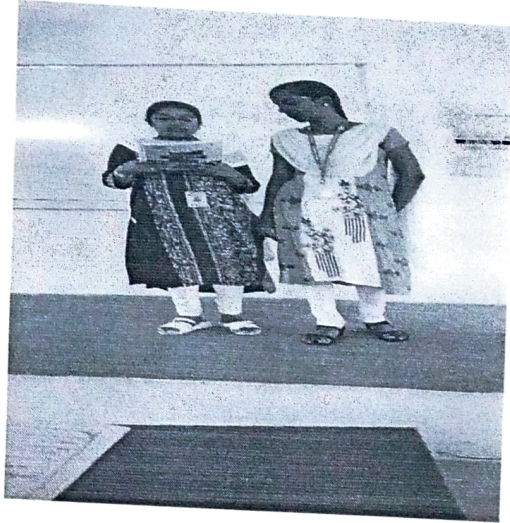
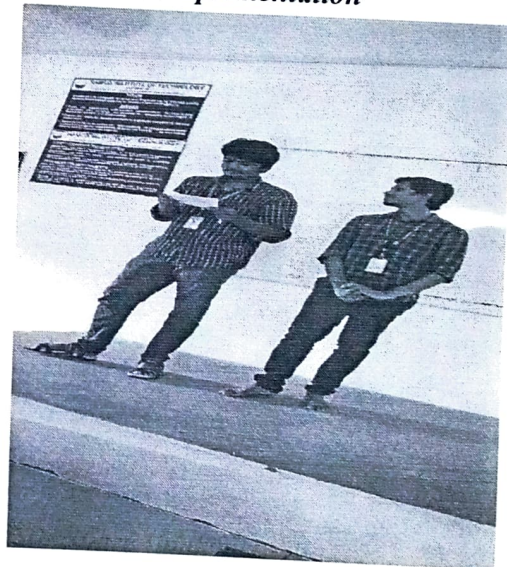

Figure 1: Think Pair Share Implementation
Figure 2: Think Pair Share Implementation
- The students pairs are Kavimalar and Samyukthavikashini, Mohan kumar and Abishek, Gnamoorthy vidhya and Nivethitha, Vijayalakshmi and Karthiga, Kannan and Mohamed Shein. They presented the topic Code of ethics, Balanced outlook on law, law and ethics as shown in figure1 and figure2.